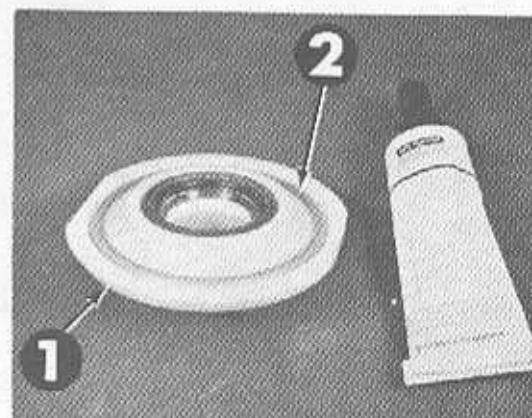

Fig. 2
4. Prepare new seal (1, Fig. 2) for installation by using the Dow Corning #111 compound from seal kit. First cover the exposed area of the "O" ring (2, Fig. 2 and 3, Fig. 3) with the compound. Next use this sealing compound to fill the seal cavity (2, Fig. 3). Now place a film of the lubricant on the lip of the seal (1, Fig. 3).